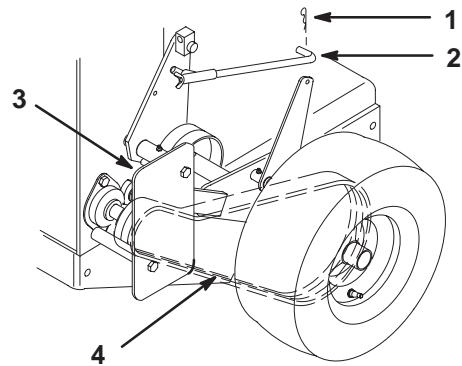

Figure 46
- Remove hairpin cotter securing brake rod to brake arm to relax belt idler tension (Fig. 46).
- Remove bottom and loosen top bolts of shield to rotate for belt clearance (Fig. 46).
- Lift belt past idler and off drive pulley (Fig. 46).
- Secure shield with previously removed bolt and tighten bolts (Fig. 46).
- Secure brake rod to brake arm with hairpin cotter (Fig. 46).